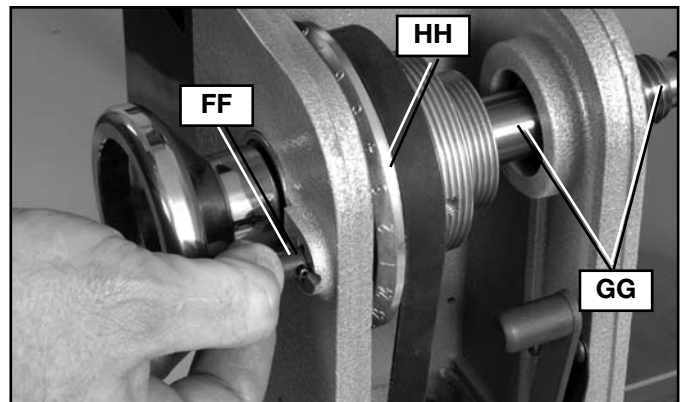

Fig. 21
The lathe is equipped with an indexing pin (FF) Fig. 21. The pin allows the spindle (GG) to be locked in 24 positions—as labeled on indexing wheel (HH)—for use in various operations. To use:
1. Rotate indexing wheel (HH) so spindle (GG) is in desired location.
2. Pull back index pin (FF) slightly from retaining groove.
4. Release indexing pin (FF) so that it engages numbered indexing wheel (HH) Fig. 21 and locks spindle (GG) in place.